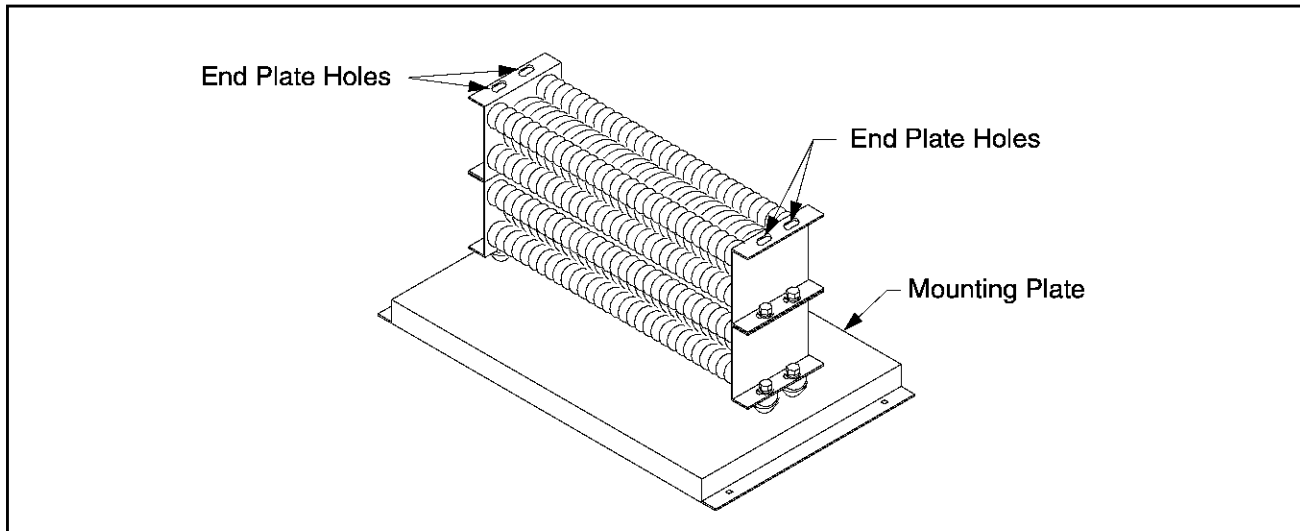
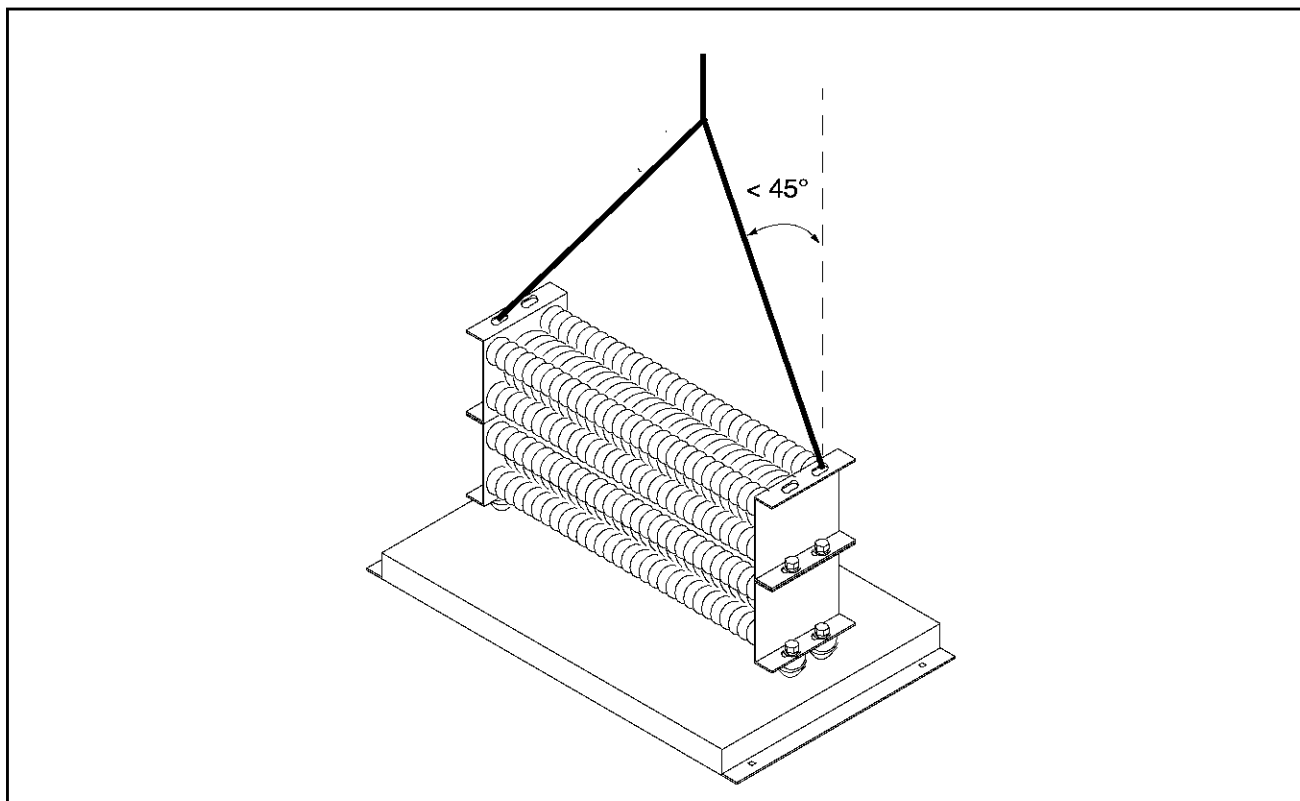

Figure 1 – DB Resistor Assembly
Figure 2 – Example of DB Resistor Assembly Lifting Points
Figure 1 illustrates the main structural features of the DB resistor assembly. Not shown, but supplied with this assembly, is an enclosure which serves as a heat shield. It should be installed after the DB resistor assembly is mounted and secured.
- Step 2. Insert properly sized and rated lifting hooks (or lifting bolts with washers) into the end plate holes on the DB resistor assembly (see figure 1). To limit pull in forces on the dynamic braking assembly, the lifting devices connected to the hooks must be long enough to make the angle between the chain and a vertical line extending up from the assembly edge less than 45 degrees, as illustrated in figure 2.